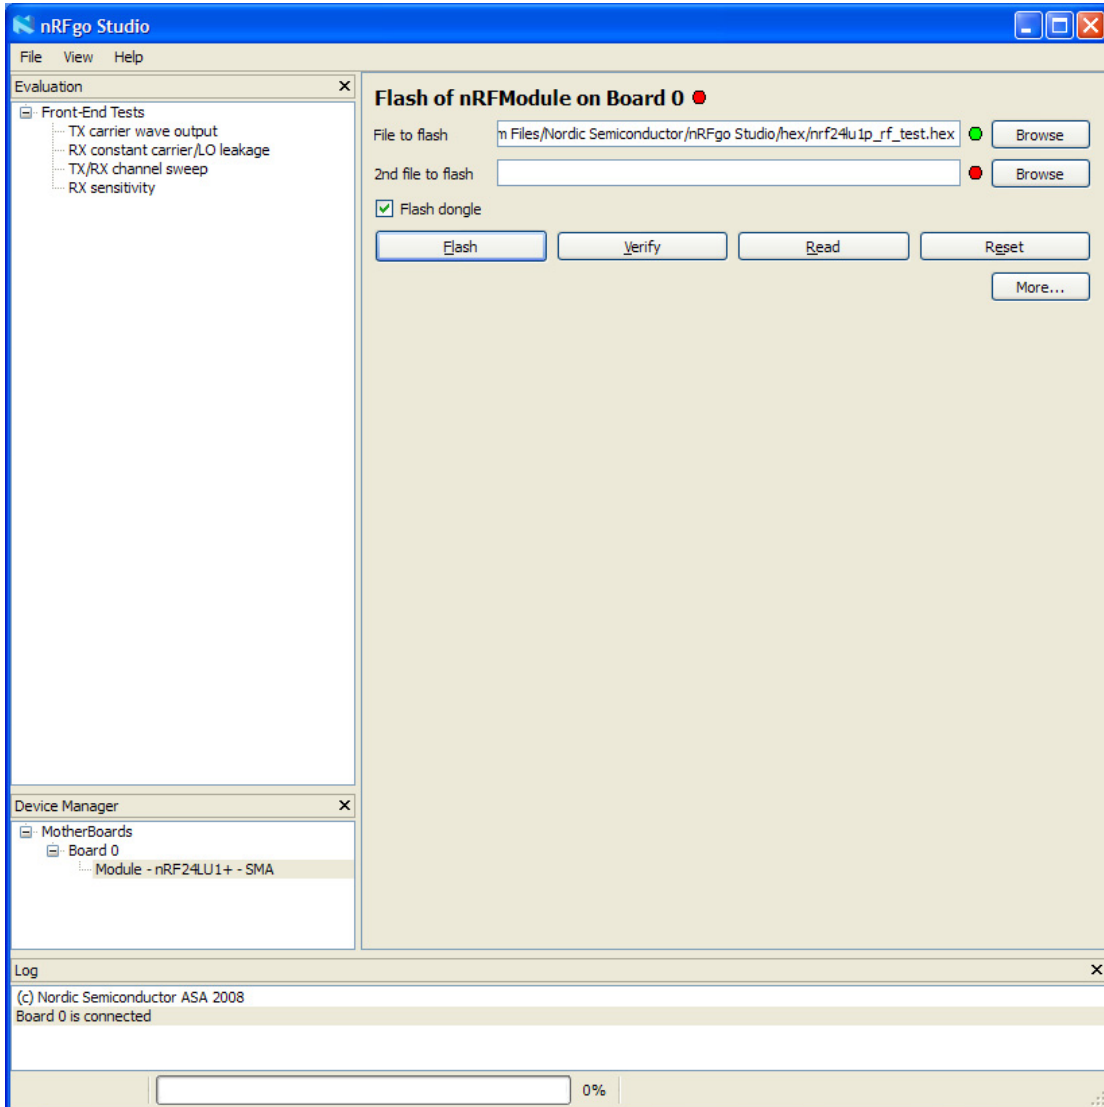

Figure 11. nRFGo Studio
7. In the nRFGo Studio (see Figure 11.) check **Flash dongle**.